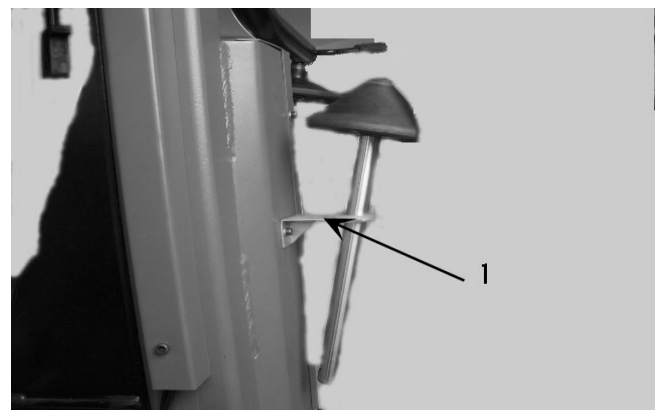

FIG 37
6.1.9 As fig37, fix the cone support on the body bracket and install the press cone on the bracket.